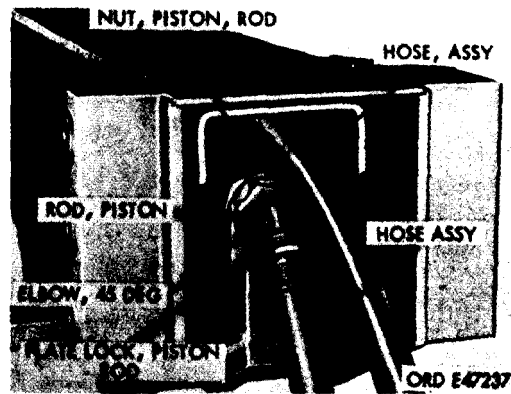

Figure 449. Disconnect points from boom removal
(1) Removing boom from shipper.
- (a) Remove 45° elbow with hose assembly from end of piston rod. Bend lip on piston rod lockplate (fig. 449) from piston rod nut and remove both nuts and plate.